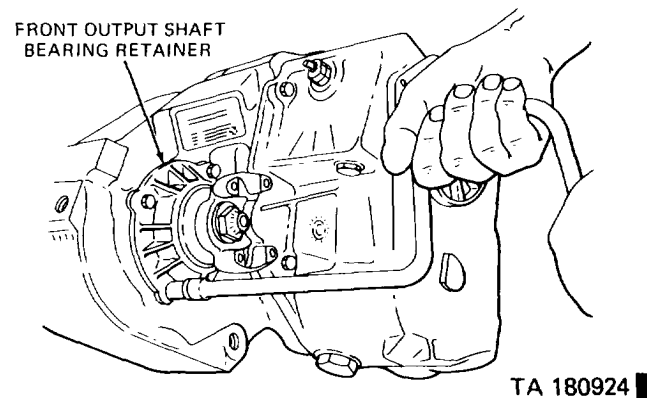

Figure 17-3. Removing Bearing Retainer Screws.
(4) Remove the front output shaft bearing retainer bolts (figure 17-3). Remove the retainer. Discard the gasket.